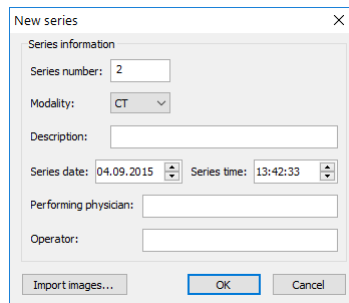

Figure 439 – New series dialog
3. Fill the information concerning the new series into the **New series** dialog (see Figure 439) and click the **OK** button.
3. Fill the information concerning the new series into the **New series** dialog (see Figure 439).